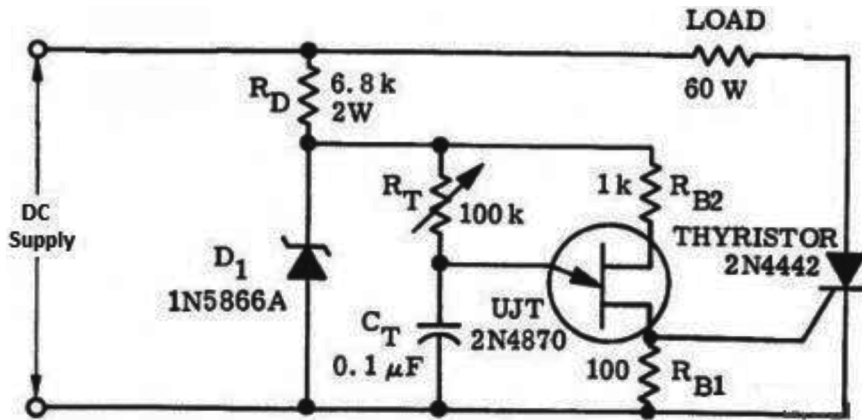

Fig. 5.1 UJT triggering Circuit
1. Make the circuit connection as per the circuit diagram in Fig. 5.1.
1. Note down the voltage across zener diode used in fig. 5.1.